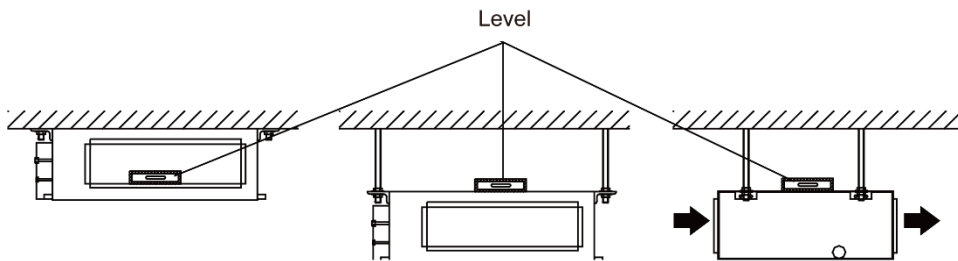

Fig6
- a. The indoor unit is equipped with a built-in water pump and float switch, verify the unit is level in all 4 directions using a level gauge as shown in Fig6.